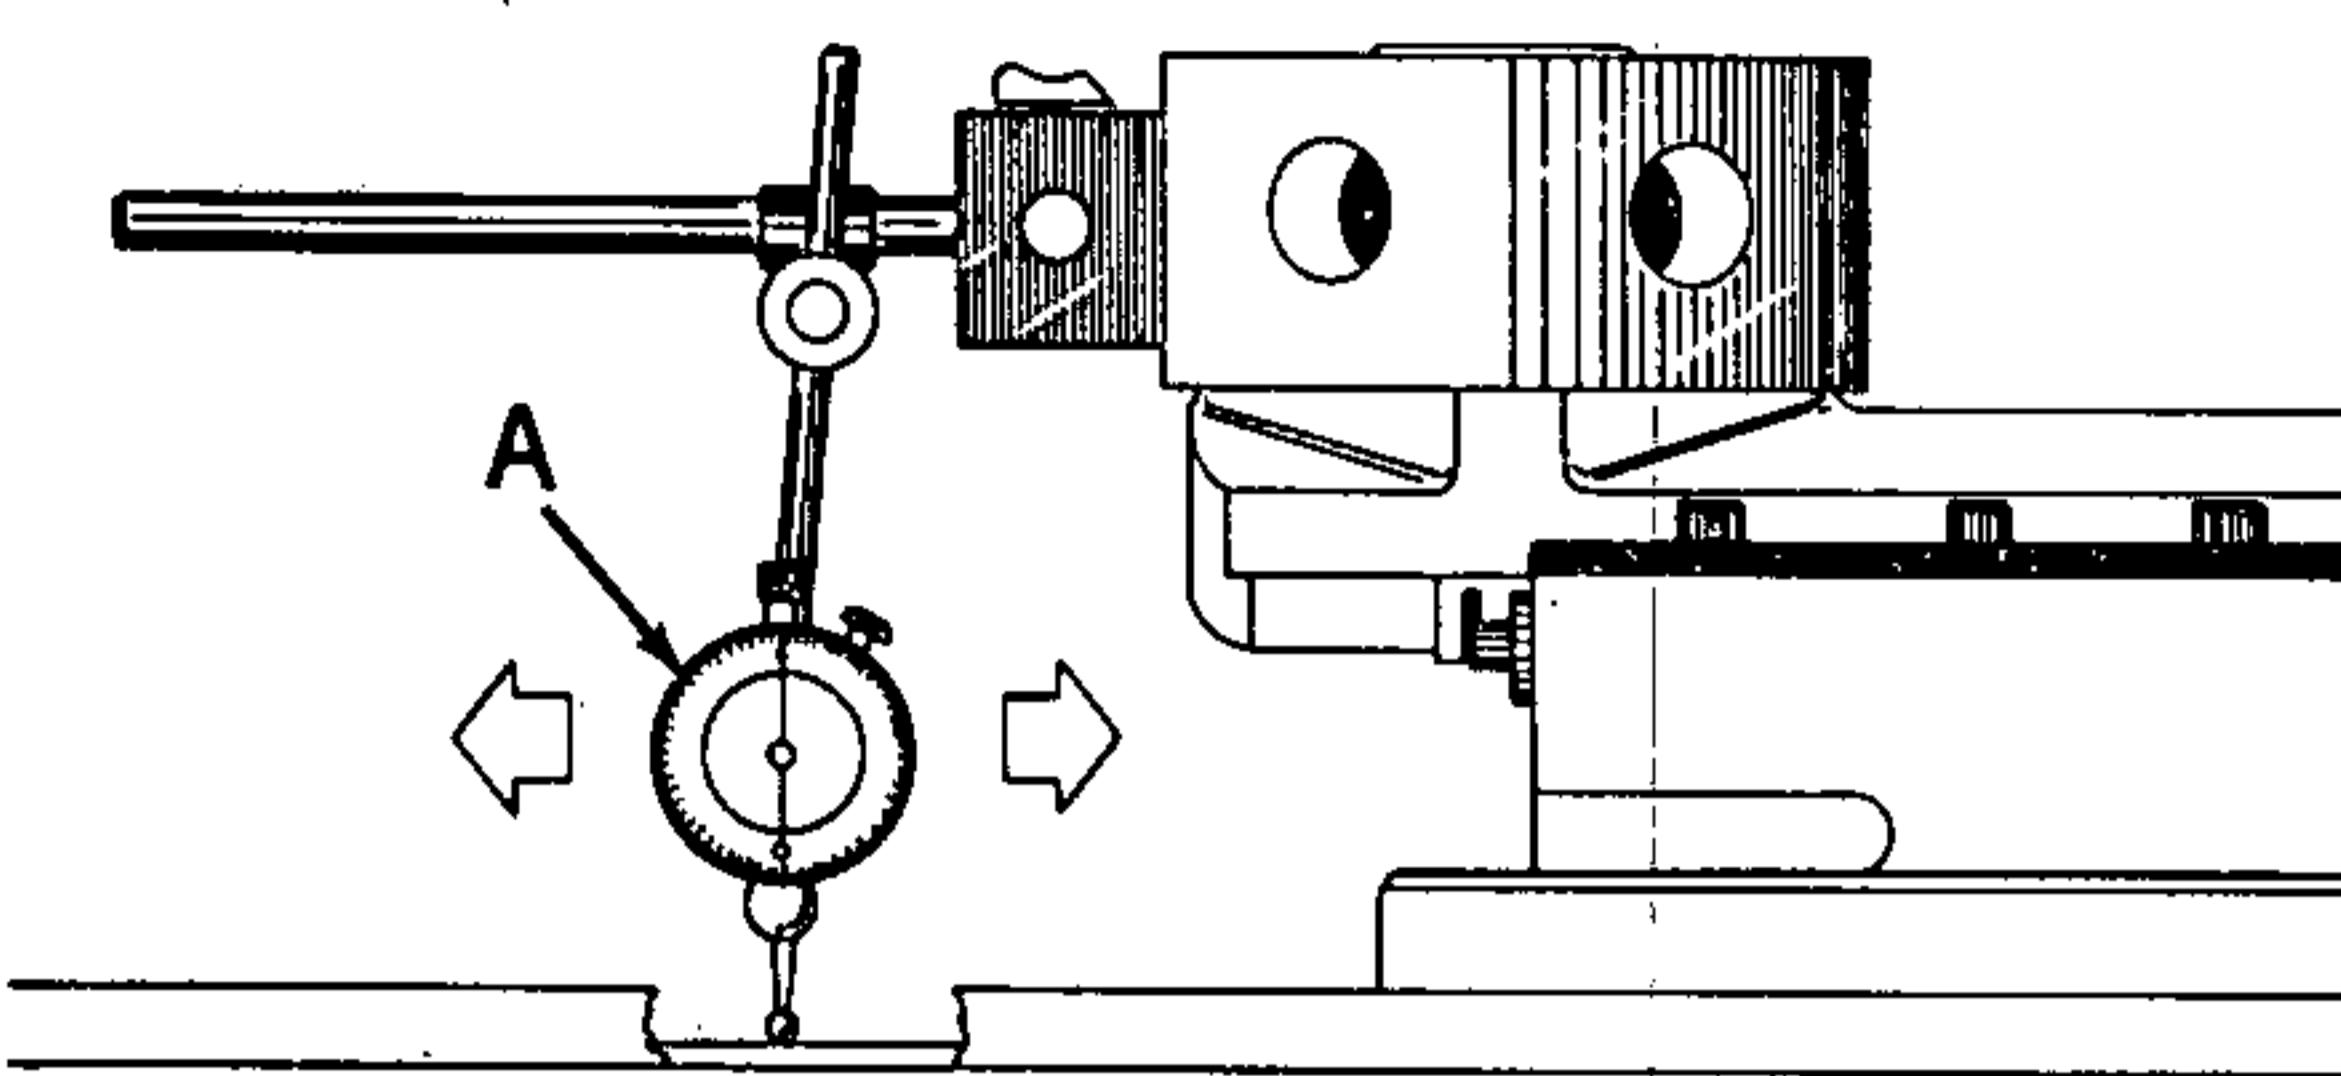

Figure 2
3. Mount indicator (A, Fig. 2) on front of turret head.